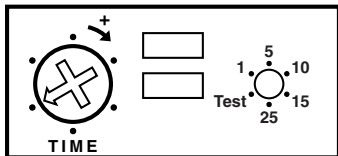

Figure 6 - Control Panel
3. For test purposes, use a small, phillips screwdriver to turn the TIME control to the TEST (5 second) position (see Figure 6). Turn the power back on at the circuit breaker.